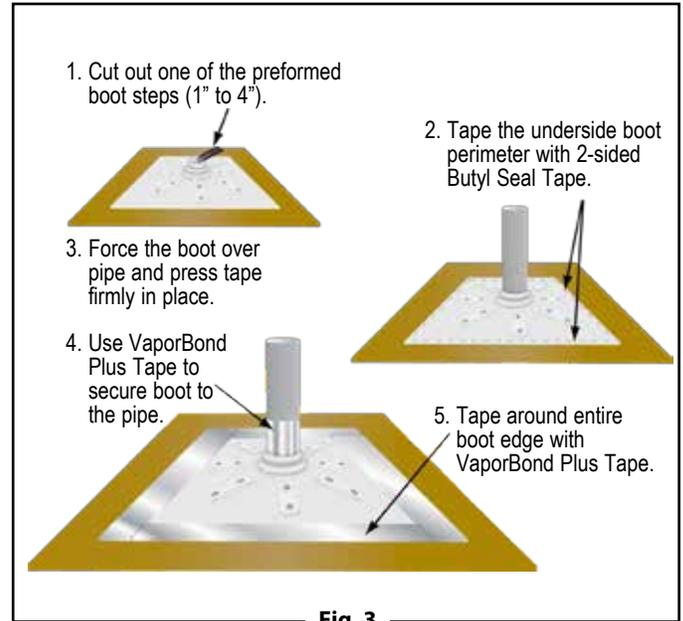

Fig. 3
- 1.4. Seal around all plumbing, conduit, support columns or other penetrations that come through the VaporBlock® Plus™ membrane. Pipes four inches or smaller can be sealed with Raven VaporBoot Plus preformed pipe boots. VaporBoot Plus preformed pipe boots are formed in steps for 1", 2", 3" and 4" PVC pipe or IPS size and are sold in units of 12 per box (Fig. 3 & 5).